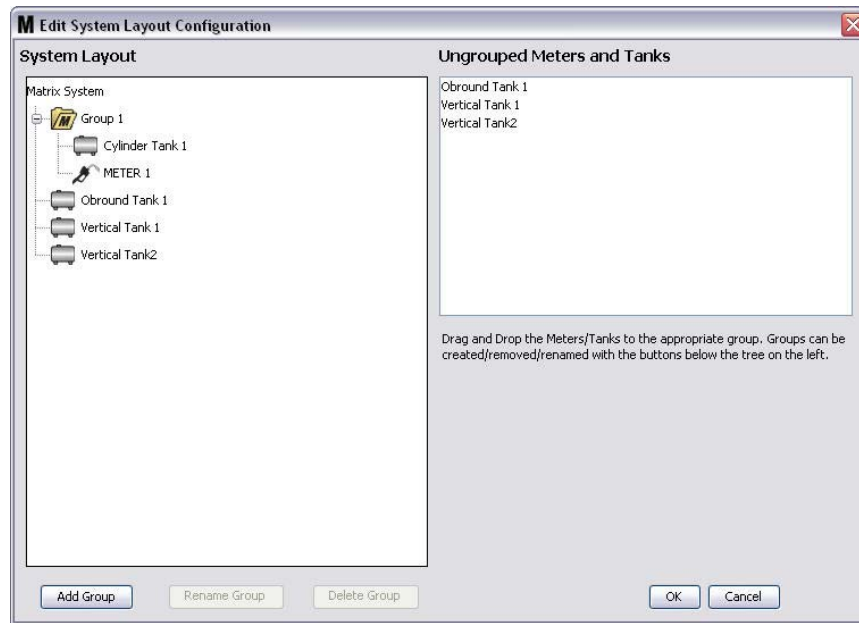

FIG. 146
- The selected tanks and meters now appear under the folder icon on the Matrix System side of the screen as shown in FIG. 146.
- To Rename a group, use your mouse to select the group folder on the list on the Matrix System side of the screen. Click the Rename Group button (FIG. 146).
11. To Delete an empty group, use your mouse to select the group folder on the Matrix System side of the screen. Click the Delete Group button (FIG. 146).